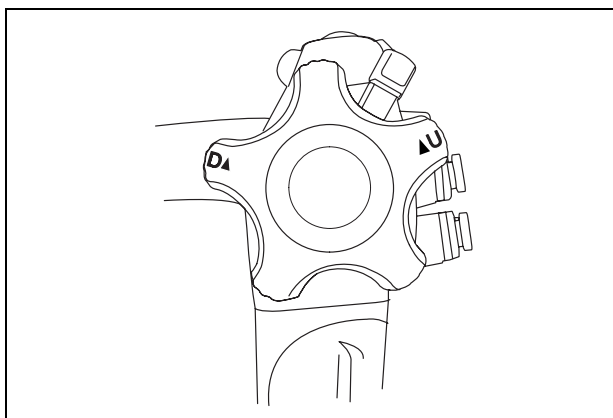

Figure 3.7
4. When the UP/DOWN angulation control knob is turned to its neutral position as shown in Figure 3.7, confirm that the bending section returns smoothly to an approximately straight condition (for GIF-N260 only).